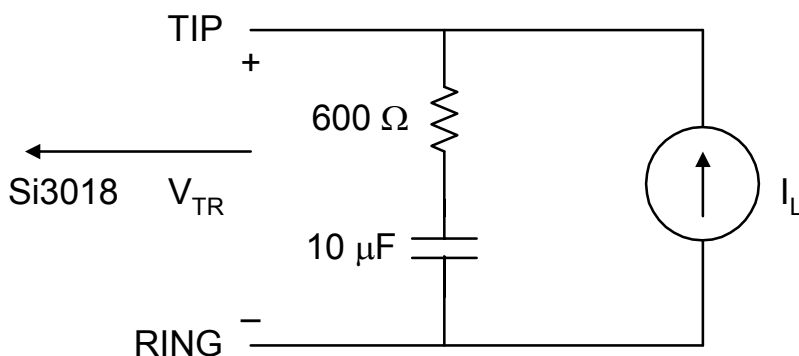

Figure 1. Test Circuit for Loop Characteristics
($V_D = 3.0$ to 3.6 V, $T_A = 0$ to 70 °C, See Figure 1)
1. Measured at TIP and RING with 600 Ω termination at 1 kHz, as shown in Figure 1.